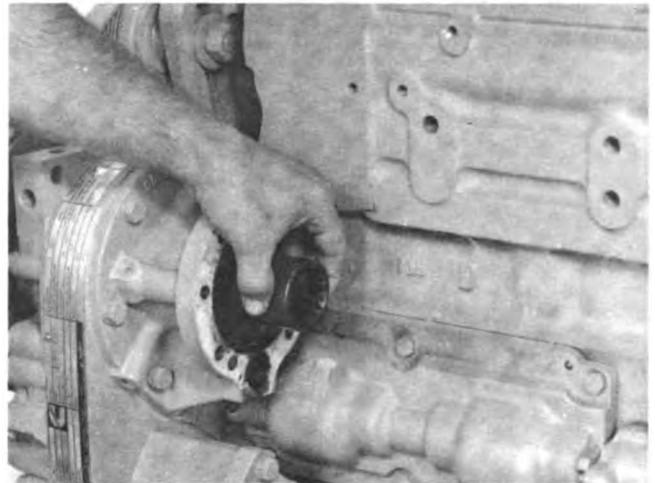

Fig. 0-27. Remove The Spline Coupling.
3. Remove the spline coupling from the accessory drive, Fig. 0-27.